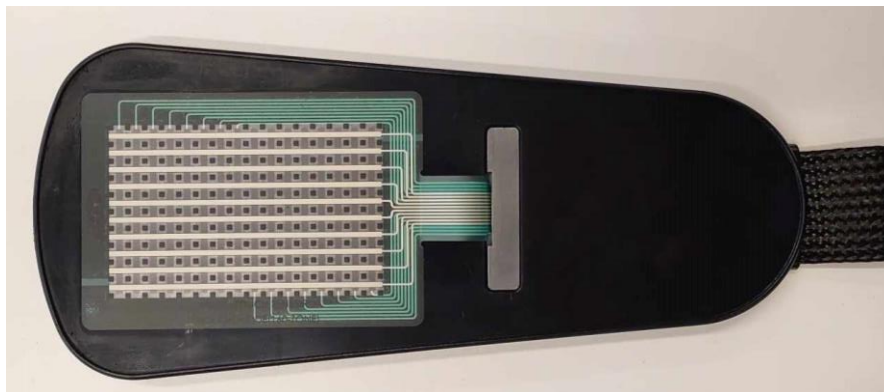

Figure 8. Observe for adhesive residues.
6. Pull carefully to remove the damaged sticker from the footpad (Figure 8).
7. Once the sticker is removed, observe for any adhesive residues (Figure 8).